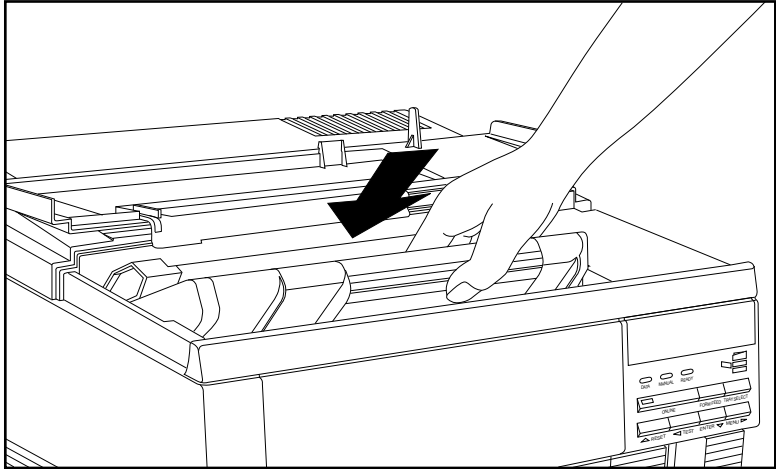

Fig. 6.14 Load the Toner Cartridge
3. Holding the cartridge with both hands, align and slide the cartridge into the printer until it rests securely in place (fig. 6.14). If the toner cartridge is not seated in place, the top cover will not close.